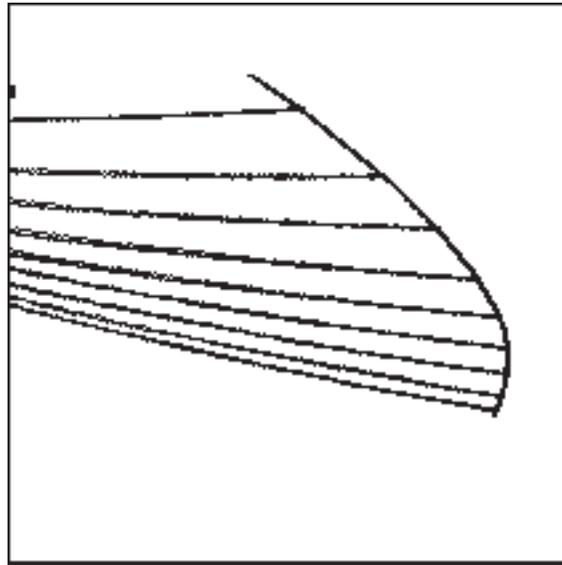

Figure 4-4b.
9. The display should look similar to **Figure 4-4b**.